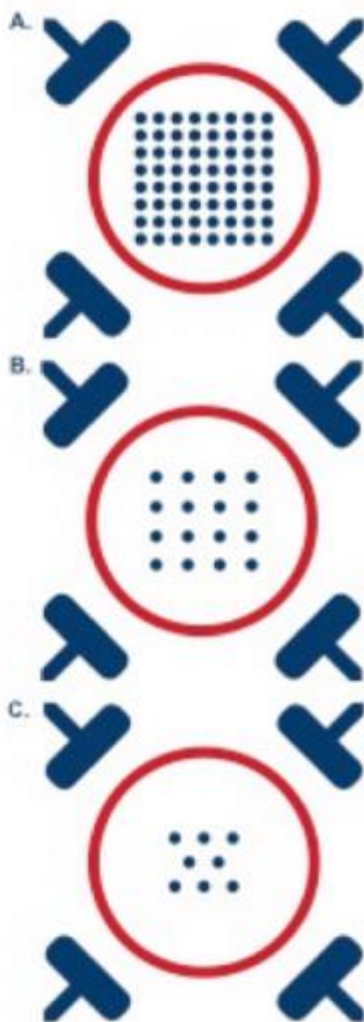
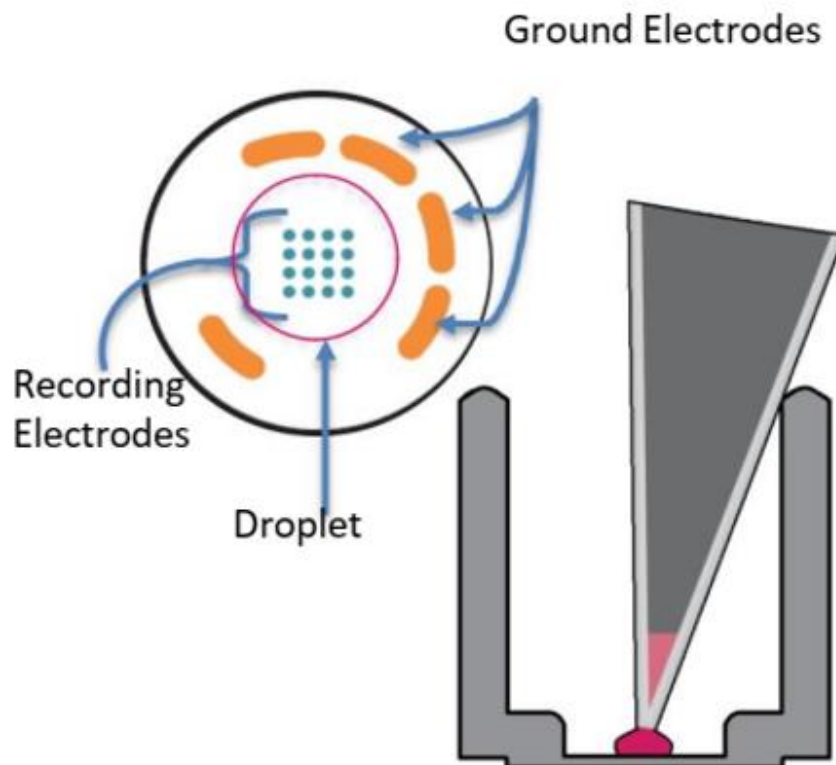

Figure 1: Drop Placement Diagram
Figure 2: Drop Placement guide for both fibronectin coating and cardiomyocyte seeding on the Axion 48-well MEA plate.
- At least 4 hours before plating cardiomyocytes, place an 8 µL droplet of the 1x **fibronectin** working solution over the recording electrode area of each well in the MEA plate. Do not let the tip touch the electrodes. See Figure 1 and 2 for appropriate drop placement.
- Place an 8 µl droplet of **cardiomyocyte** suspension (approx. 50,000 cardiomyocytes) over the recording electrode area of each well. See **Figure 1** and **Figure 2** for appropriate drop placement.